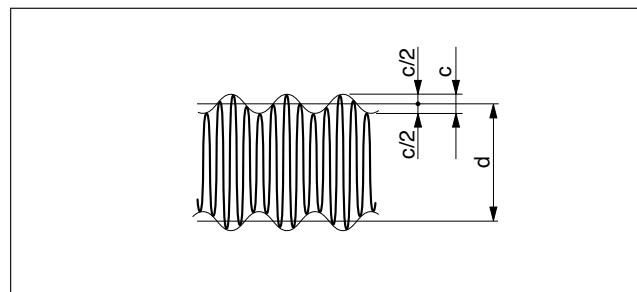

Fig. 5
- ① Insert the 8-pin DIN connector (male) into the display unit and then turn on the display unit. See the LT20A Instruction Manual for the power-on method.
- ② Connect an oscilloscope probe to the PM terminal on the preamplifier board and an earth clip to the connector receptacle screw.
- ③ Set the oscilloscope to 0.5 V/div, 5 ms/div and reset the (TIME/div) while moving the scale at a speed of 1 to 10 m/min so that the waveform shown in Fig. 5 can be observed.